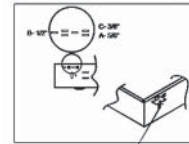

Fig 1
1. Using the mounting tabs or side slots to mount the enclosure between the studs, or using mounting holes provided in the back of the unit for surface mounting. NB. Be sure to leave enough space both on the top and bottom of the unit for wire routing and the "UP" arrow should face to the top. (Fig 1)